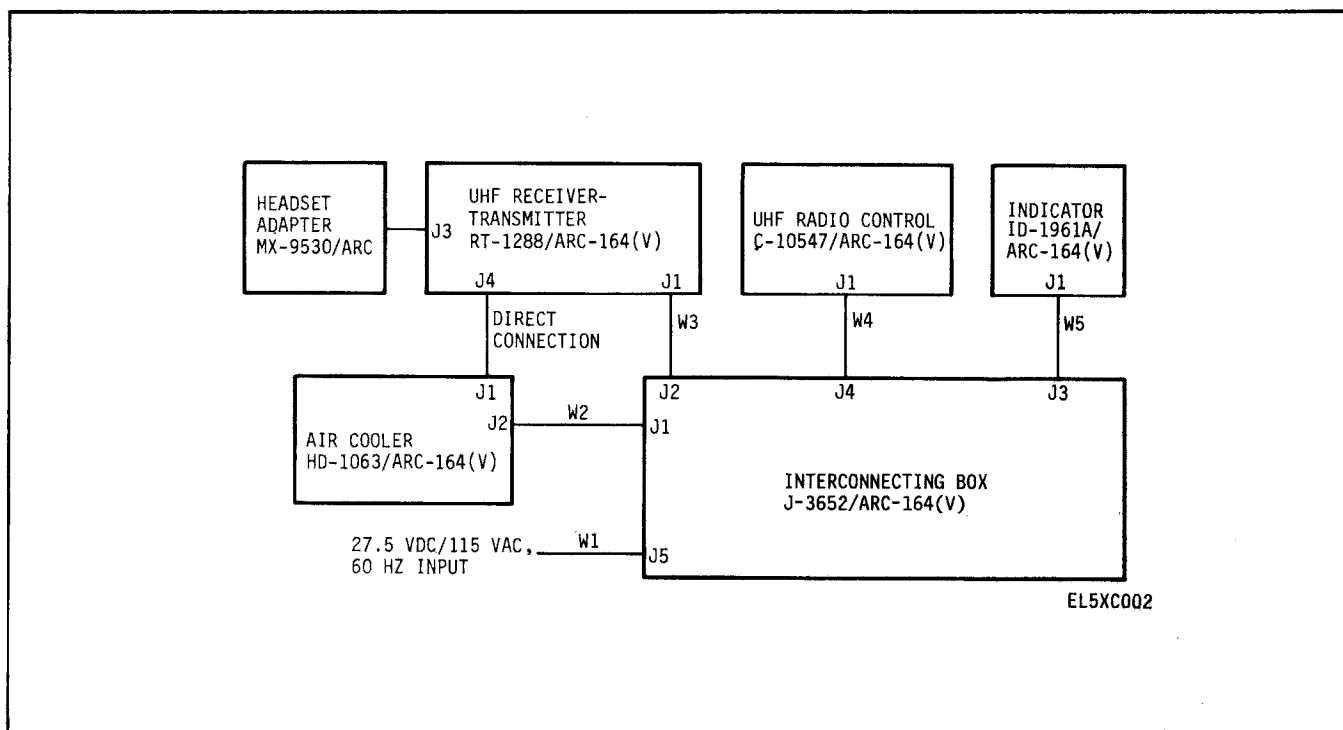

Figure 2-5. Uhf Radio Set Test Setup.
(1) Press the pressure relief valve located on the transit case to the right of the carrying handle.
(2) Remove the interconnecting box, attenuator, air cooler, indicator, and headset adapter from the case.
(3) Unlock the connecting cable storage case by sliding the two locks to the outside.
(4) Remove the five cable assemblies from the case. b. Uhf Radio Set Test Setup (fig. 2-5).
a. The interconnecting box provides interface test points to fault-isolate the uhf receiver-transmitter and uhf radio control. Figure 2-5 illustrates the interconnecting box in a functional test setup with the components of the uhf radio set. Headset Adapter MX-9530/ARC is not used in this configuration. Air cooler connector J1 connects directly to uhf receiver-transmitter connector J4. When used in this test setup, the air cooler provides the required cool airflow to the uhf receiver-transmitter. An interlock circuit in the interconnecting box prevents the uhf receiver-transmitter from operating without airflow from the air cooler.
(1) The air cooler blower turns onto provide the needed cooling air to the uhf receiver-transmitter.
(2) Relay K1 energizes providing a ground return path from the uhf receiver-transmitter, through the closed RT ON switch S1 and through the closed contacts of relay K1.